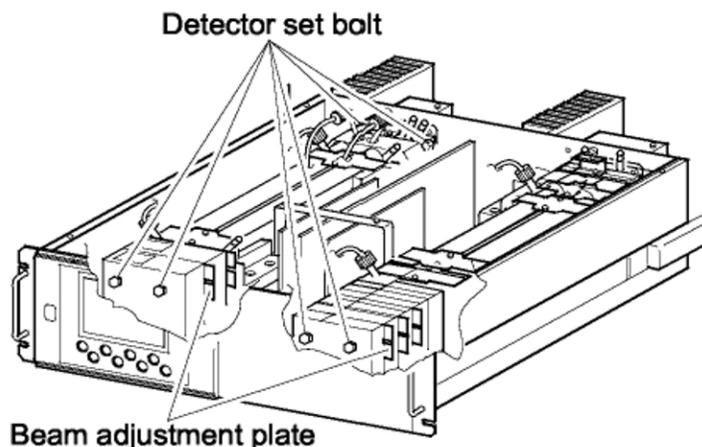

Figure 4-9: Beam Adjustment Plate
7. Move the beam adjustment plate sideways to change the value displayed at (b) or (f). See Figure 4-9.